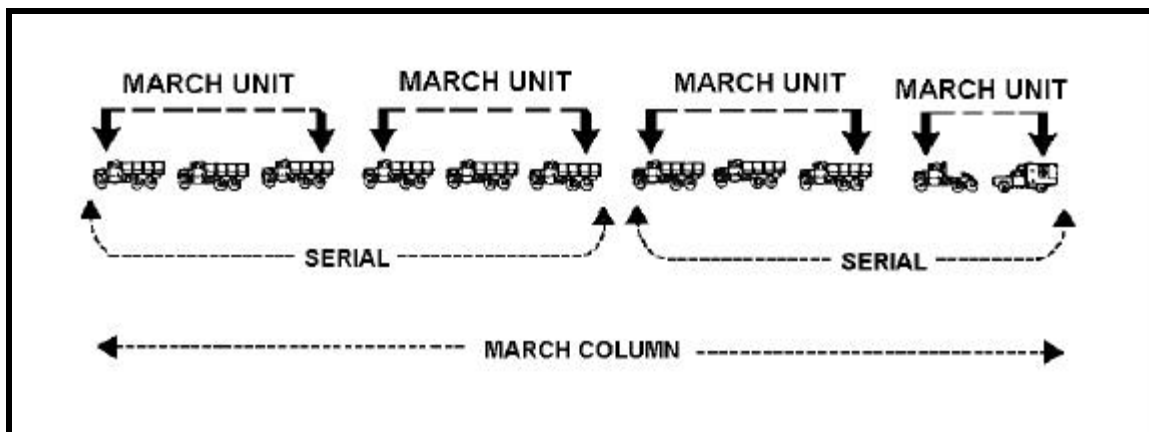

Figure 5-1. Convoy organizational elements
a. **Convoy Elements.** Vehicles in a convoy are organized into groups to facilitate command and control. A convoy may be as small as a 6-vehicle march unit or as large as a 300-vehicle column. Whenever possible, convoys are set up along organizational lines, such as squad, platoon, company, battalion, and brigade. Convoy elements include march units, serials, and columns (Figure 5-1).